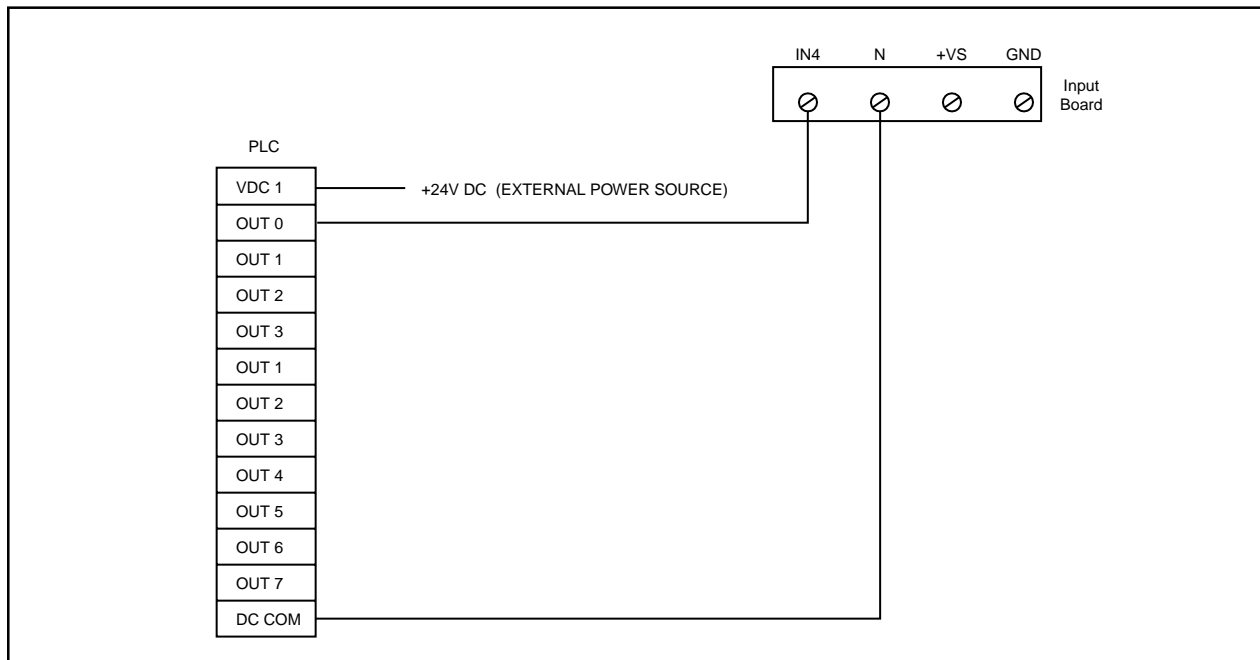

Figure 11. Connecting 24V Input Board to a PLC. See Table 1.
Table 1. Programming Logic Controller (PLC) Compatibility: PLC output to meet following product input parameters. See Figures 11 and 14.
5. Adjust volume level, if desired, by turning potentiometer located on the main board (Figure 11).